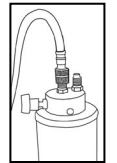

Fig 3.
3. Attach blue (Low Side) hose to inlet fitting (center fitting) of Recycle Guard Unit (See Fig 3.)